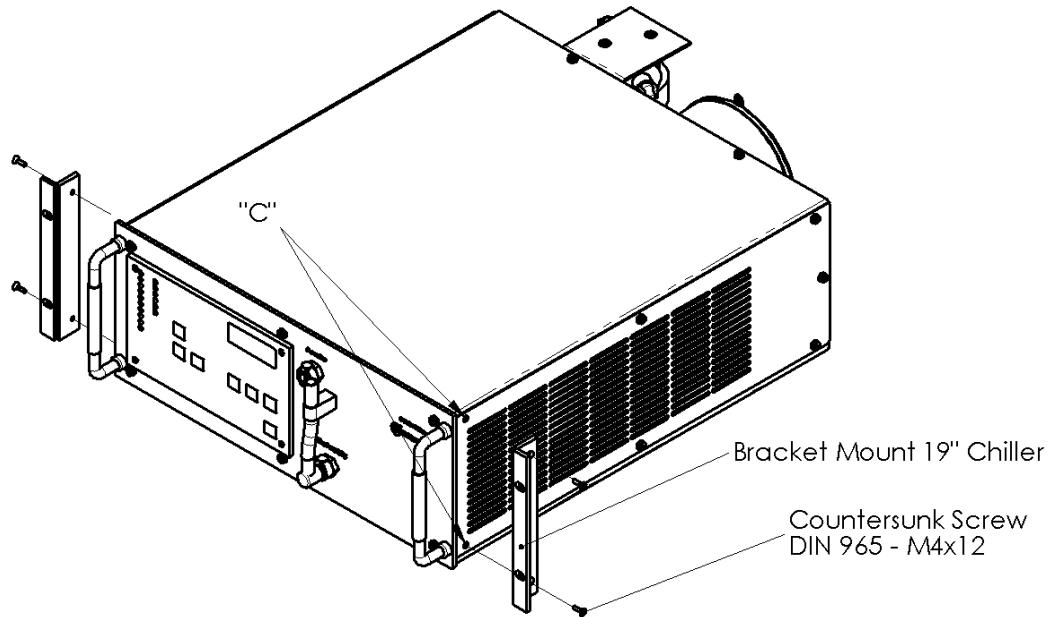

Figure 3-21. Chiller Rack Mount Option
1. Remove the 4-cap screws and remove the lock washers from position C on both sides of the chiller (see Figure 3-21).